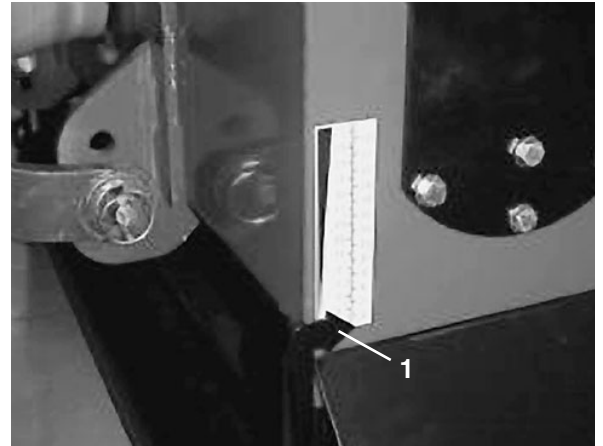

Figure 19
3. Depth guides (Fig. 19) are provided with numbers 1 through 27. Depth varies with the mounted angle of aerator, tine type and amount of tine wear. Refer to the *Depth Chart*, page 21. Tine depth between two numbers is approximately 0.20 inches (5 mm). The higher the number, the deeper the tine penetration. Always adjust each side to the same number.